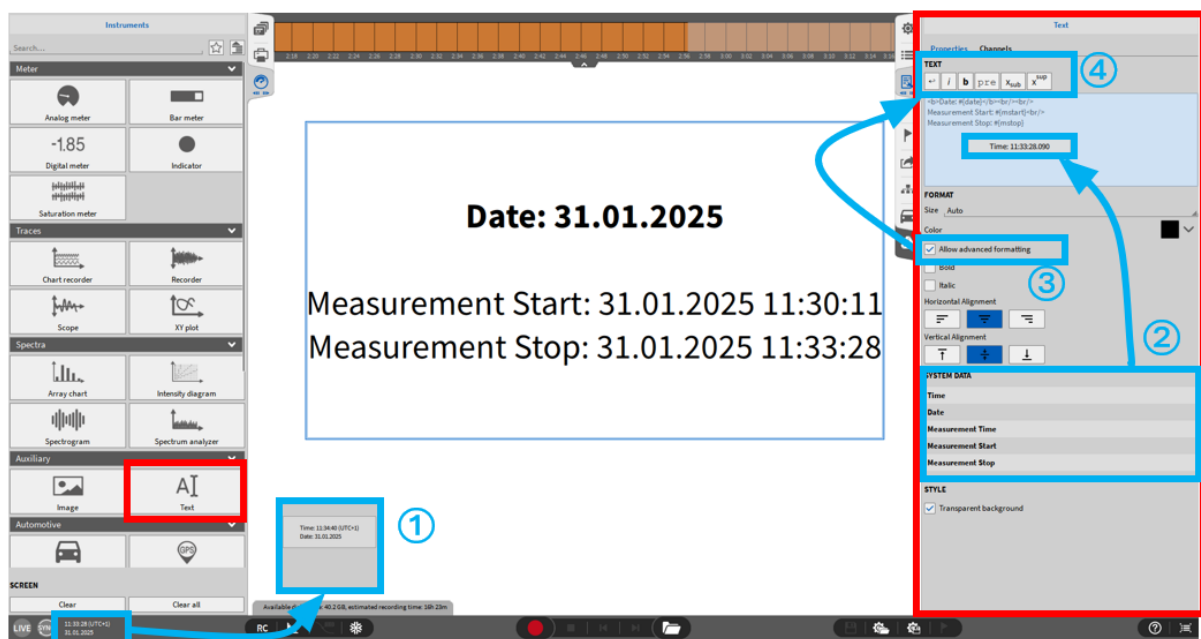

Fig. 8.101: Text instrument – overview
Italic. Furthermore, the horizontal and vertical alignment can be changed. The advanced text formatting options (see ④ in Fig. 8.101) for formatting only certain words or characters instead of the entire text must be activated via the checkbox (see ③ in Fig. 8.101).
1. The time and date display in the lower left corner can directly be dragged and dropped on the measurement screen (see ① in Fig. 8.101). A Textbox will be created automatically with the according time and date.
2. In the instrument properties the time, date and measurement time can again dragged and dropped into the text field (see ② in Fig. 8.101) or be added with a double click on the respective element.